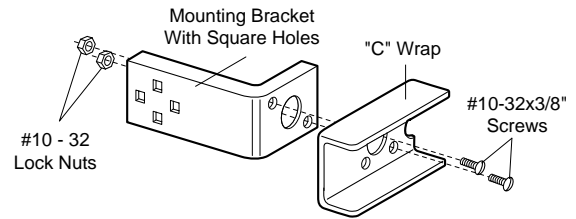

Figure 2
2. Connect each assembly to a slotted bracket, using the hardware shown in Figure 2. **Note alignment of brackets for left and right sides of the door.**
4. Use bracket mounting holes as a template to locate and drill (2) 3/16" diameter pilot holes on both sides of the garage door, 4"-6" above the floor **but not exceeding 6"** (see warning on page 12).
5. Attach bracket assemblies with 1/4"x1-1/2" lag screws as shown in Figure 2.